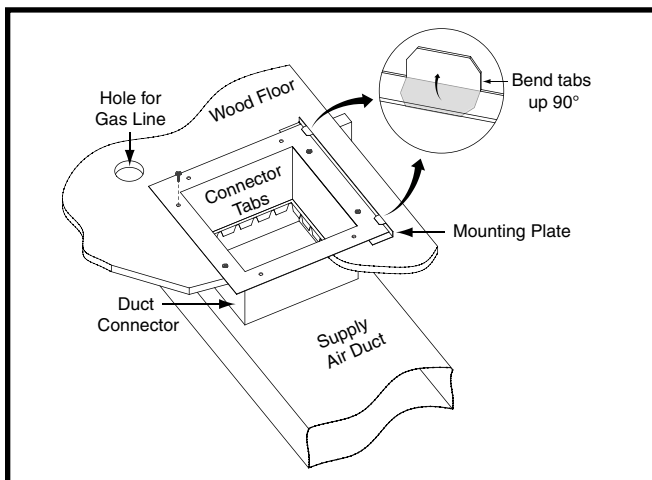

Figure 8. Standard Duct Connector Installed
- Mark the cut-out area on the supply air duct by tracing around the connector tabs of the duct connector. See Figure 8 (page 7).
- Install the mounting plate under the back side of the duct connector as shown in Figure 8. Align the screw holes in both components.